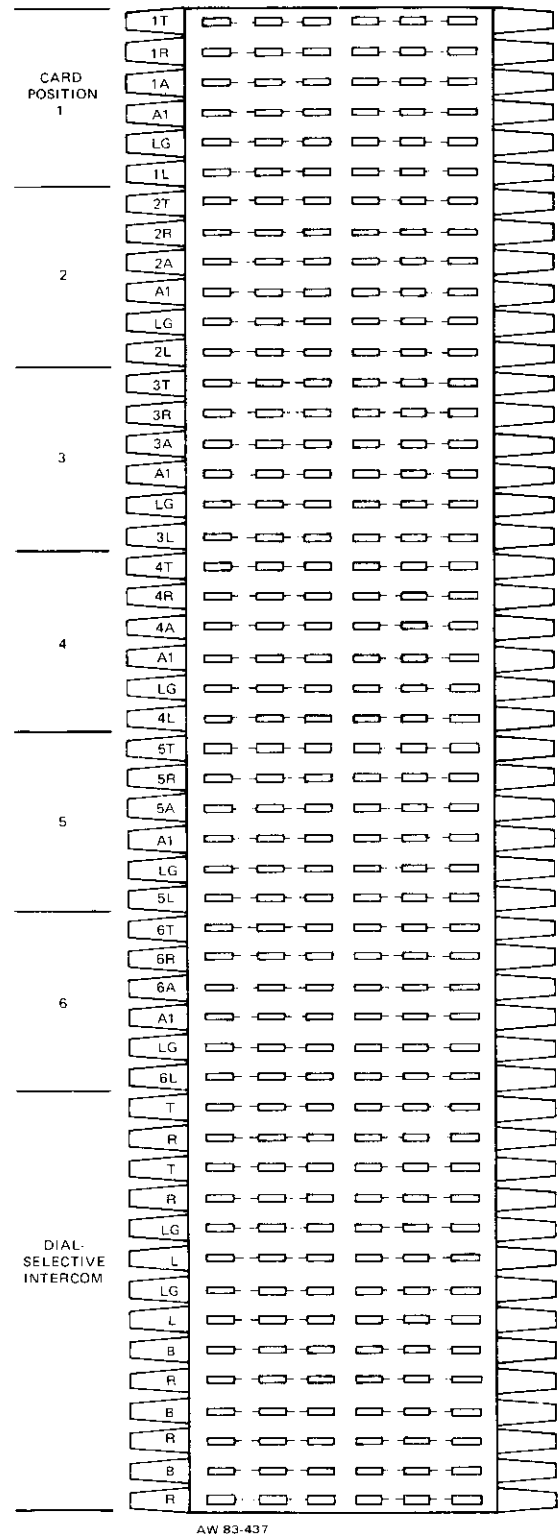

Figure 2: KSU Connecting Block A
2.09 The left-hand terminal block, block A, is shown in Figure 2. It is a 25-pair block arranged to terminate cross-connect leads from the station connecting blocks. In systems arranged for dial-selective intercom, the lower portion of the terminal block is used to multiple the intercom station Tip, Ring, lamp, and lamp ground leads. As the number of stations served by the 501A KSU